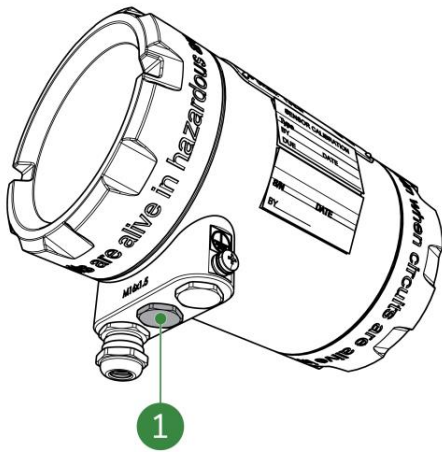

Figure 5-22: PT100 cable entry
7. Connect a PT100 cable if necessary, using a spare cable gland for the cable entry (Figure 5-22, pos. 1).